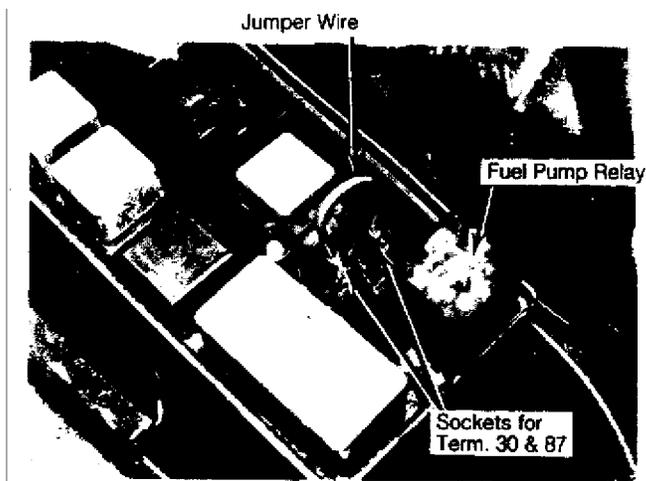

Fig. 6: Jumper Wire Connection For Fuel Pump Testing
3) To operate fuel pump with engine not running, disconnect fuel pump relay from relay panel. Insert a jumper wire into sockets that correspond to terminals 30 and 87 on relay. See Fig. 6.